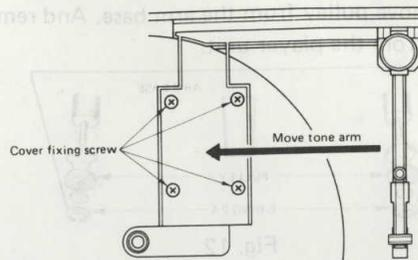

Fig. 9
3) Remove nine set screws (T1-3 x 12) and remove the back. Remove four screws (T1-3 x 10) to remove cover (Fig. 9) under red this the turntable. Then hold the base of tone arm and move the tone arm toward the centre shaft.